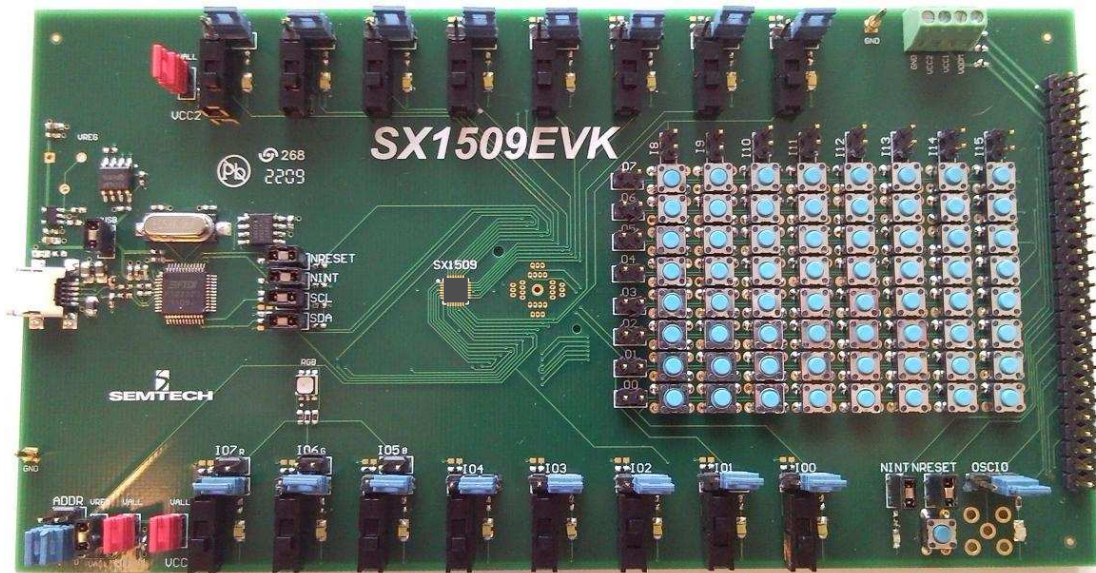

Figure 3: SX1509EVK Board Picture
- ⇒ Jumper on right position (Cf. *Figure 3* and *Figure 10*): IO is connected to a 5V/15mA white LED structure to monitor an output state and illustrate static, intensity controlled, blinking, and breathing LED applications. Output high => LED OFF; Output low => LED ON.